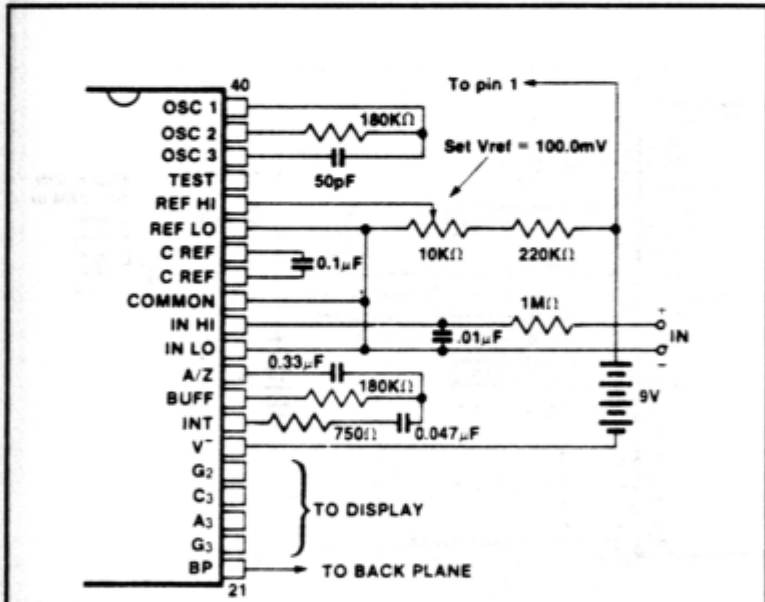

Figure 11: 7126 using the internal reference.
*Values depend on clock frequency. See Figures 11, 12, 13.